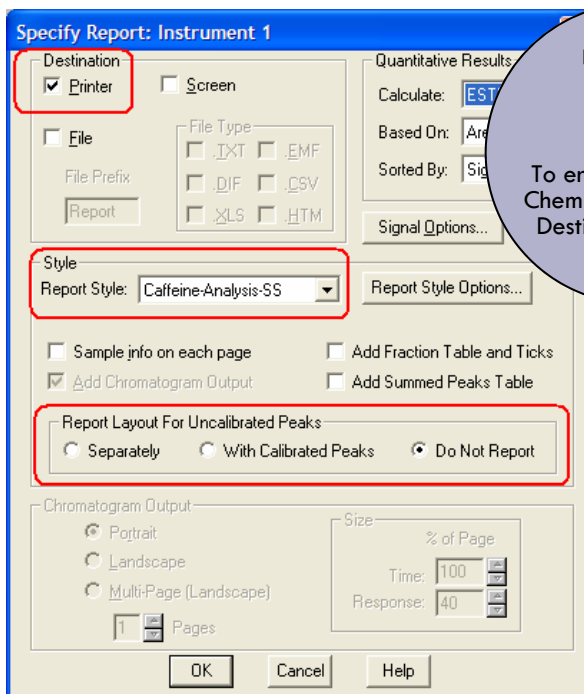

Figure 13: Chem2XL template specification
11. Select the desired report style to be used for the ChemStation method. Chem2XL allows different reporting templates for each ChemStation method. Select the new report template style in ChemStation by going to the “Reports” menu and selecting “Specify Reports”. Scroll down in the Style list to select the new report template (see Figure 13).